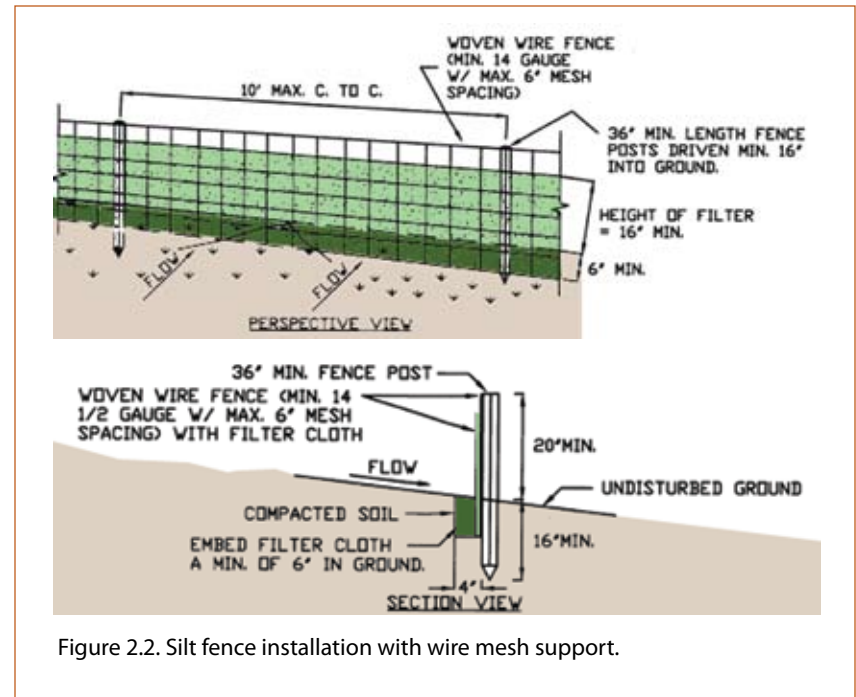

Figure 2.2. Silt fence installation with wire mesh support.
- Reinforce fabric with heavy wire support fencing to prevent collapse where necessary (Figure 2.2).